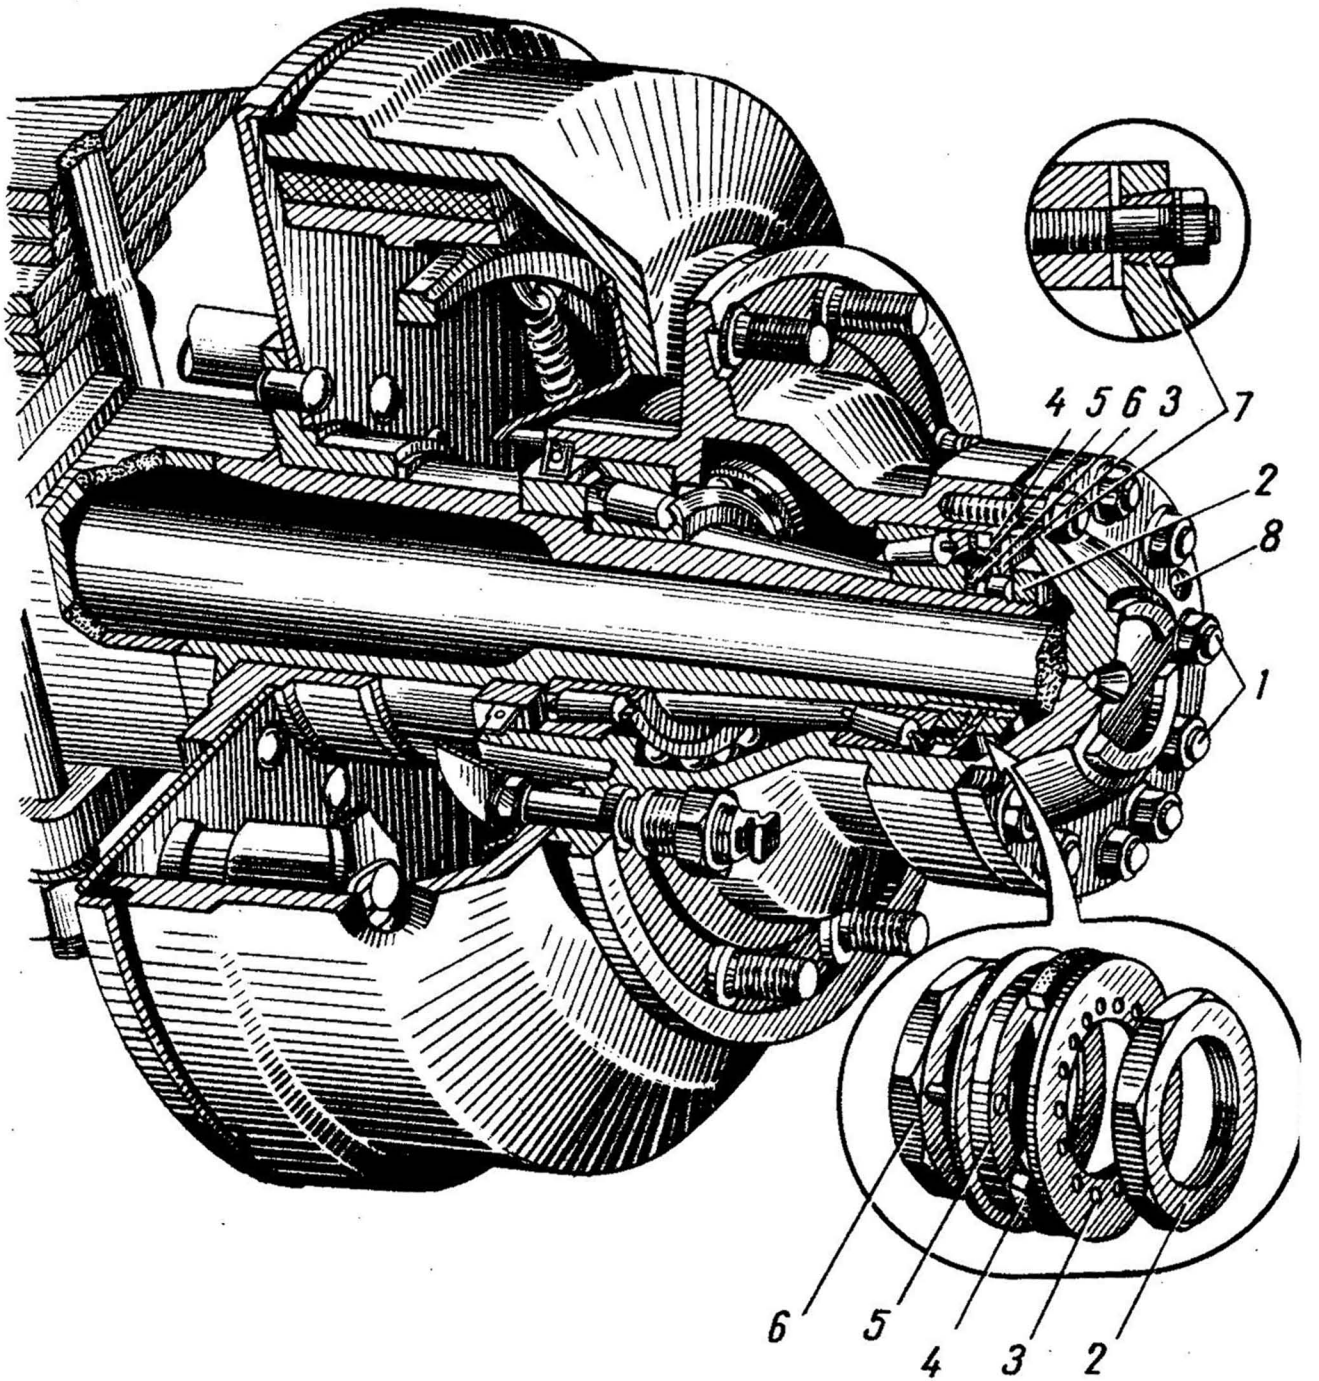

FIG.57. REAR WHEEL HUB OF ЗИЛ-130 TRUCK
1. Unscrew nuts 1 (Fig.57) holding the axle shaft flange.